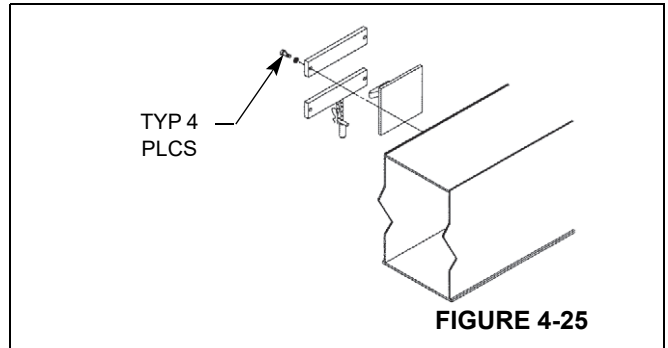

FIGURE 4-25
2. Loosely bolt the hook assembly to the side of the first boom section, Figure 4-25.